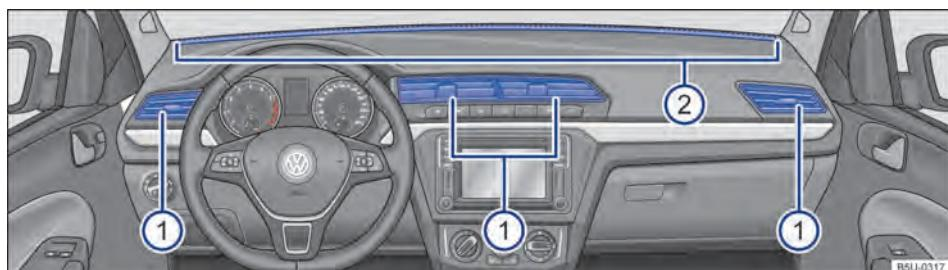

Fig. 76 On the dashboard: vents.
- Press the upper part to open the vents ①.
Other non adjustable vents can be found on the dash panel → Fig. 76 ② and in the footwell areas.